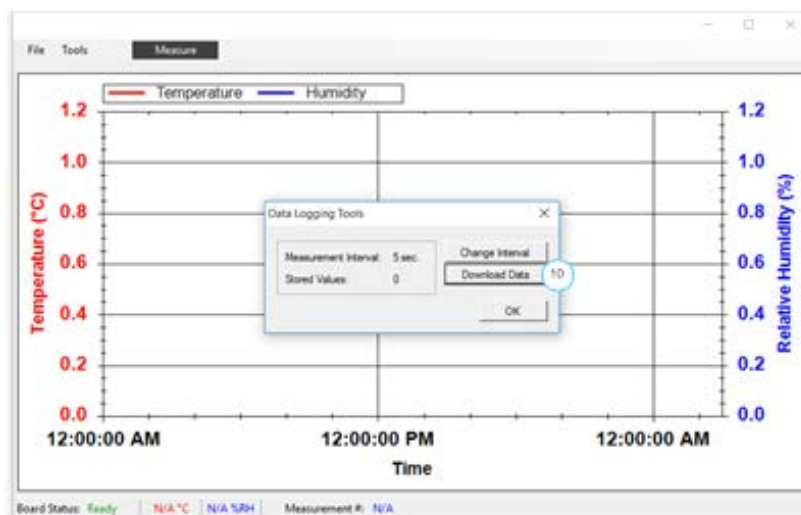

Figure 8. Download Data to Demo Software
| Figure 8. Download Data to Demo Software | 6 |
1. To set the board to the data logging mode, put the power switch ③ in the “Batt” position.
2. To start data logging, hold the “Start/Stop Logging” button ⑦ for 3 seconds. The “Measuring” indicator ⑥ will light for 2 seconds and then start blinking on every logged measurement. This can be disabled to extend the battery life by toggling the “L2 Enable” switch ⑧.
4. To download the logged data to the Demo Software, connect the USB port ② to the computer using the supplied USB cable, and ensure that the power switch ③ on the board is in the USB position. The “USB” LED ④ will light.
5. In the software, select *Data Logging* from the *Tools* menu and click on the *Download Data* button ⑩ as shown in Figure 8. The maximum number of measurements that can be stored on the board is 2000.